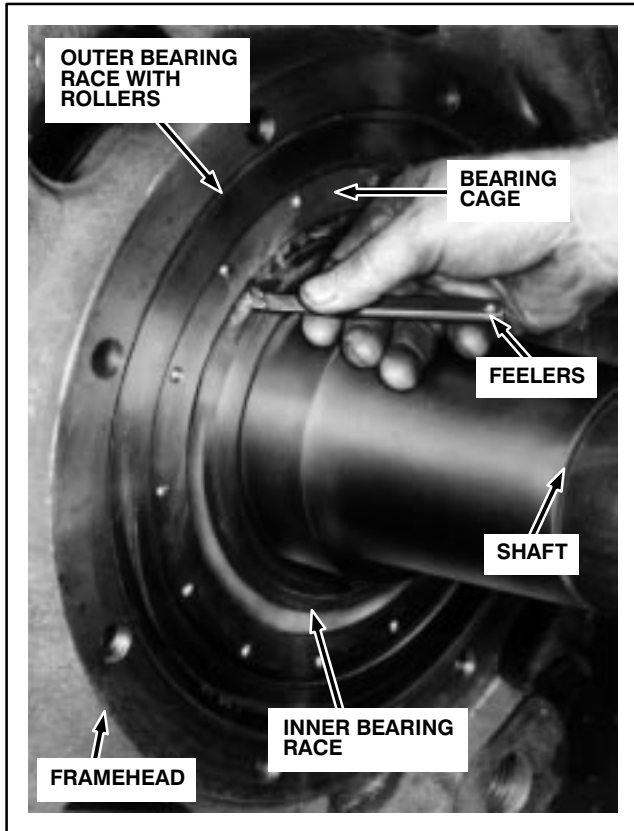

FIG. 40. CHECKING INTERNAL CLEARANCE OF BEARING. A-120403.
2. If sleeve (13) was removed, heat it to 110° C (230° F) and shrink it tight onto the shaft against the shoulder.
3. When sleeve (13) has cooled, assemble a new seal ring (5) onto the sleeve, oriented as shown in Fig. 40.
4. Pack 5.20 oz. grease into the outer circumference of the cavity of bearing housing (8).
5. Heat bearing housing (2) in an oven to 100° C (212° F). While hot, assemble nilos ring (4) (oriented as shown in Fig. 40), and the ball bearing (3) into the housing firmly against the shoulder at the bottom of the bearing fit.
6. Fill all voids in the ball bearing completely with approximately 20.8 oz. of grease. Smear 0.5 oz. of grease on the bearing housing and bearing cap seals, and on the seal ring wear surface on the nilos ring (4).
7. Heat the bearing and housing assembly in an oven to 100° C (212° F). While hot, assemble it onto the shaft, with the inner race tight against sleeve (13).
10. Use a feeler gauge and check the radial clearance on the drive-end bearing between each bearing roller and the inner race, at the top of the bearing, Fig. 40. Place the feeler gauge between the top roller and the inner race.
9. Use a feeler gauge and check the radial clearance on the drive-end bearing between each bearing roller and the inner race, at the top of the bearing, Fig. 40. Place the feeler gauge between the top roller and the inner race.
11. Pack 4.8 oz. of grease in the outer circumference of outer bearing cap (36).
12. Install a new gasket (35) and bearing cap (36) with bolts and lockwashers (34). Torque bolts to 110–120 ft.lbs.
13. Smear seals on bearing cap (36) and sleeve (37) with grease.
14. Heat sleeve (37) to 110° C (230° F) rise and shrink it onto the shaft tight against the roller bearing inner race (38).
15. Finish the assembly of grease tube fittings and washer (27) where it passes through the framehead. Tighten all fittings and hardware.
16. At the commutator end, smear the seals on bearing cap (8) and sleeve (6) with grease.